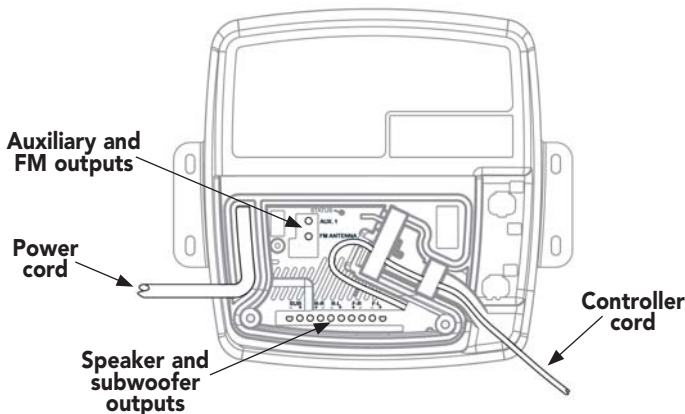

Figure 7
2. Connect the outputs of AudioSteam as shown in Figure 7.